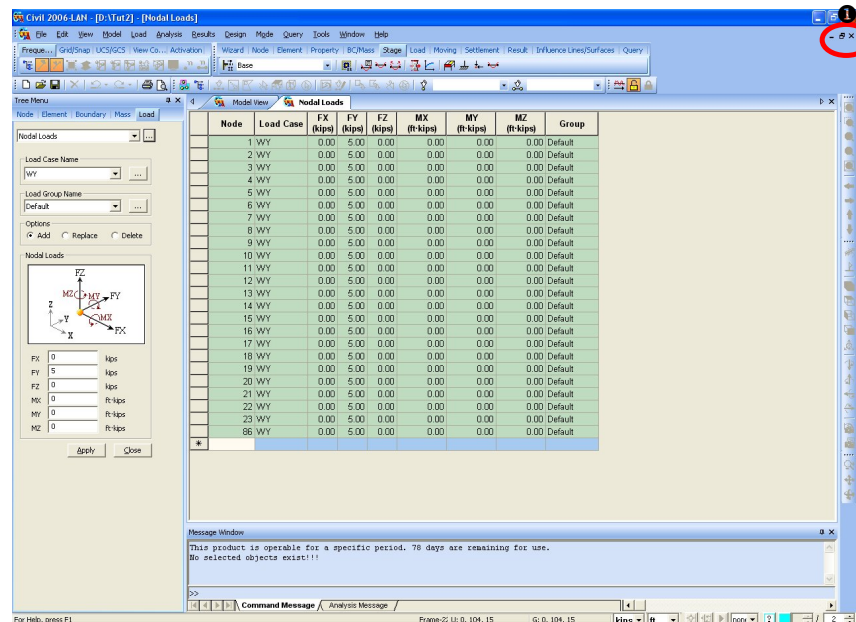

Figure 2.24 Node Detail Table
3. Click  as shown in Fig.2.24–①.